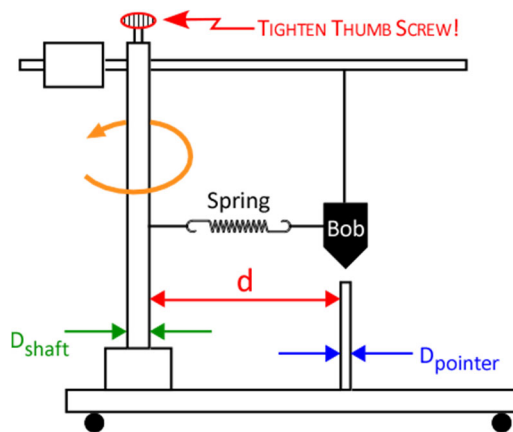
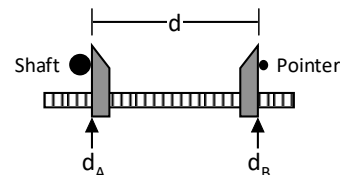

Figure 1: Rotating Bob
Figure 2: Measuring 'd'
4. The radius of Bob’s orbit, R , is the distance from the center of the rotating shaft to the center of the pointer. You will calculate the radius as shown below, measuring the diameters of the rotating shaft and the pointer, D_{shaft} and $D_{pointer}$, and the closest distance between them, d (Figure 1). Use vernier calipers to measure the shaft and pointer diameters, and a meter stick and calipers to measure d (Figure 2).
- *Recall that using the end of a meter stick can introduce measurement error. You must also record both measurements of d_A and d_B in your journal (Figure 2). Have your instructor check your radius before continuing; this is frequently where errors are made!*